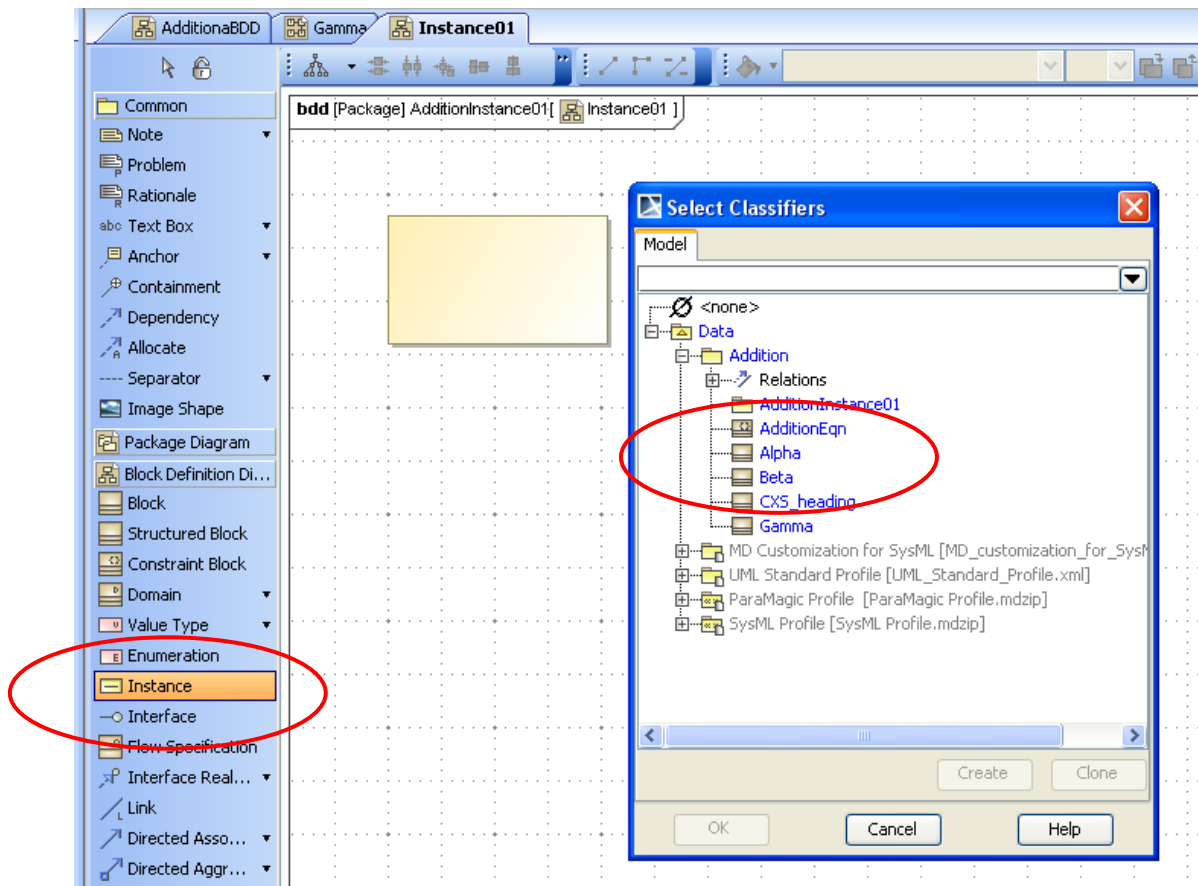

Figure 2.16 Creating an instance of Alpha inside AdditionInstance01
- c. Click on Instance from the central toolbar (highlighted in Figure 2.16) and click inside the diagram to draw an Instance block.